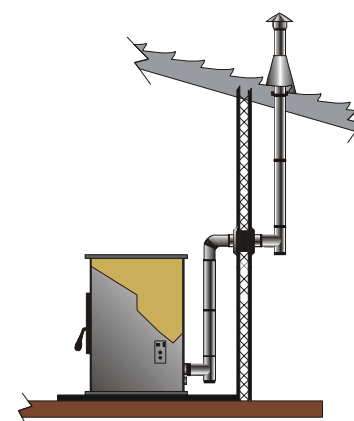

Figure 24
-  **HORIZONTAL, OUT THE WALL, THEN VERTICAL THROUGH THE EAVES**, then the roof, terminating with a rain cap. Figure 24.